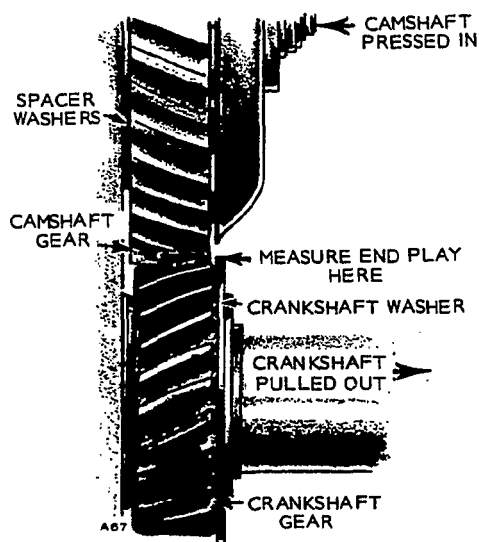

FIGURE 100. CAMSHAFT END PLAY
1. Install key and press camshaft gear on its shaft, Figure 100. Mount governor components.